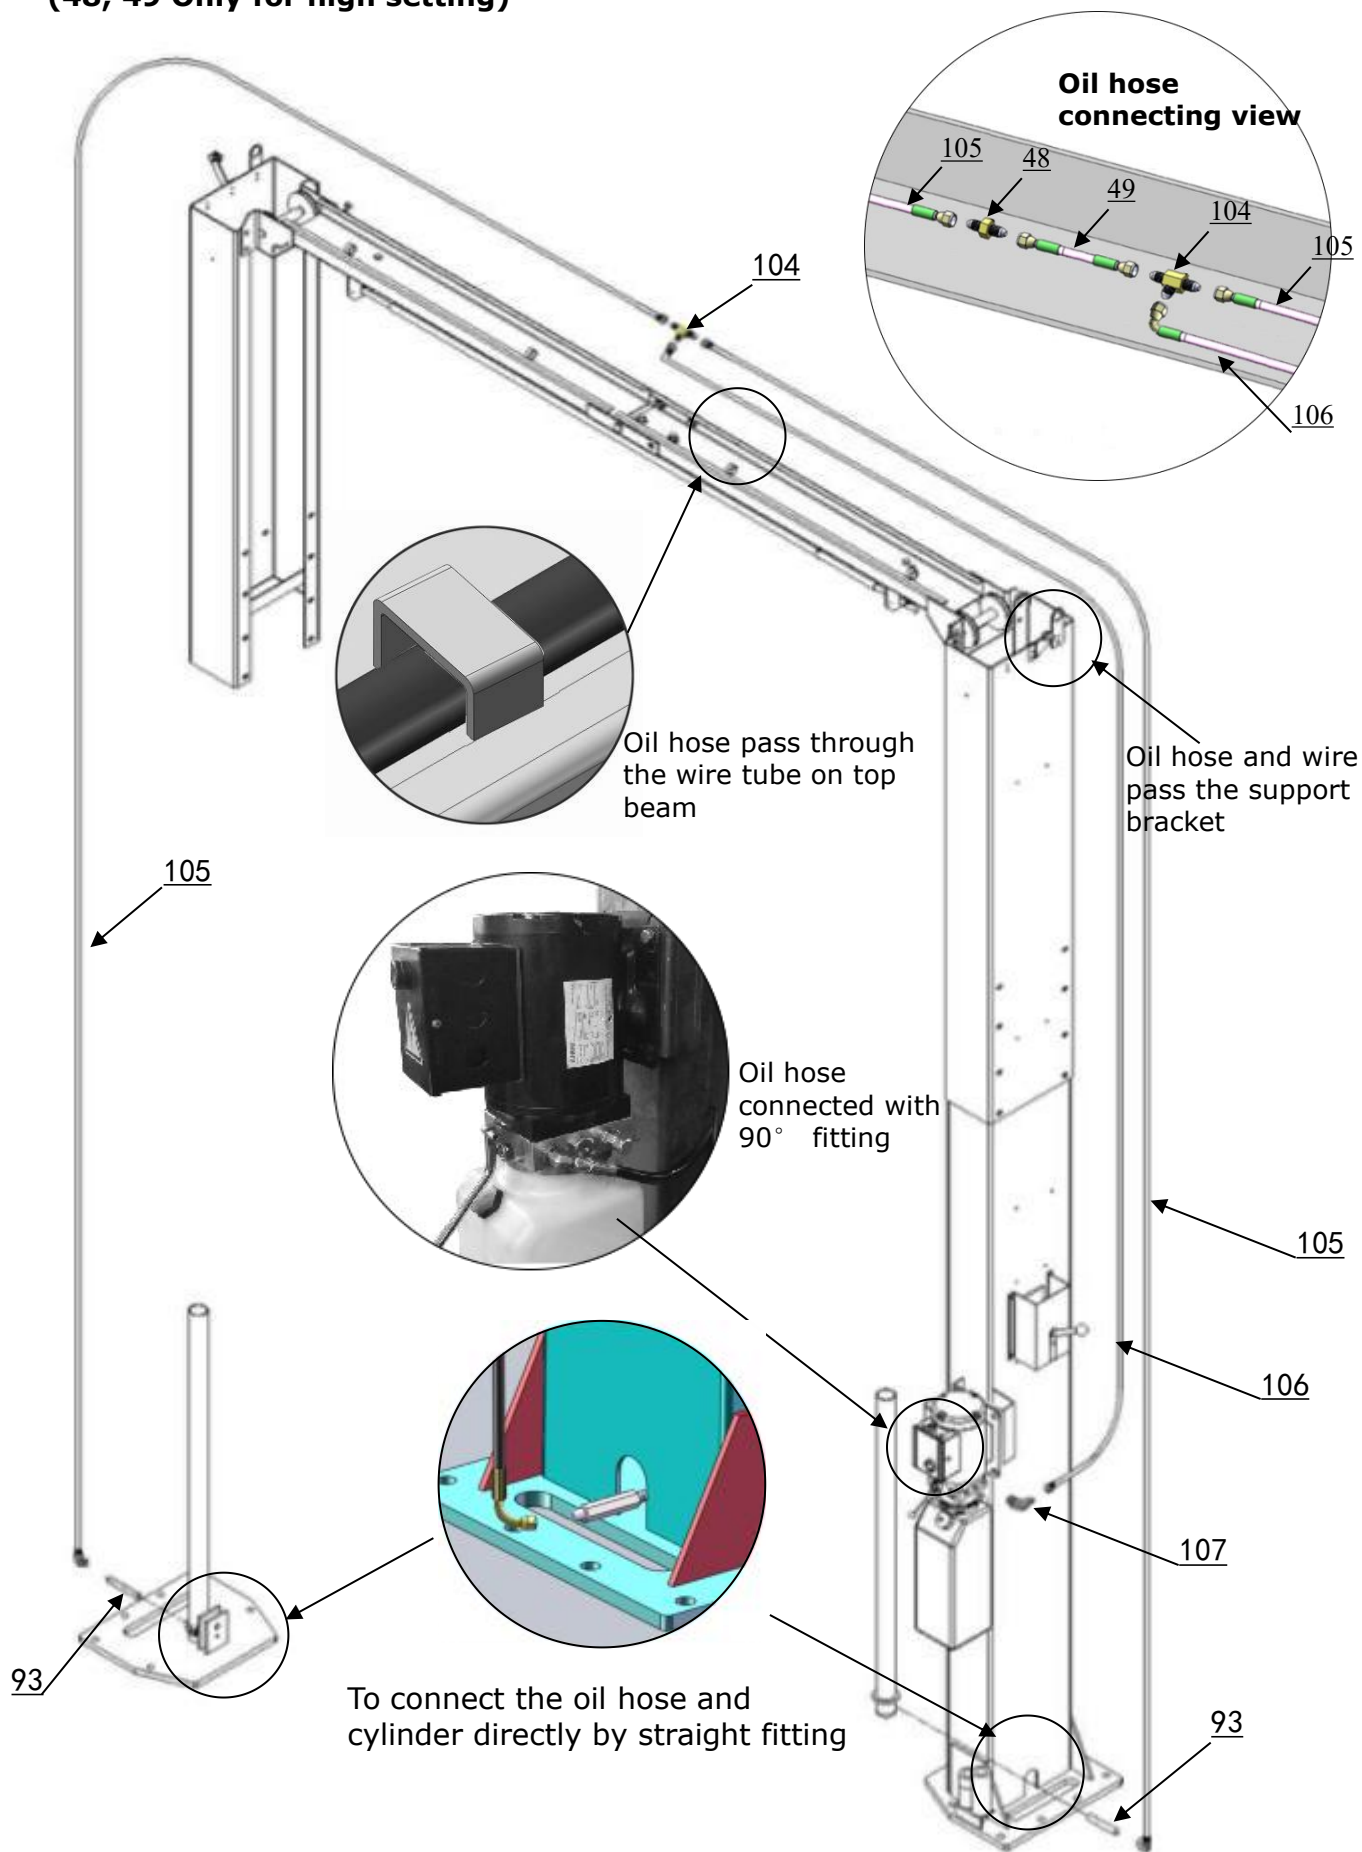

Fig. 31
N. Install oil hose (See Fig. 31)